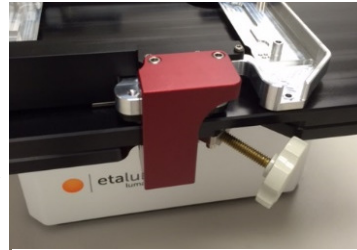
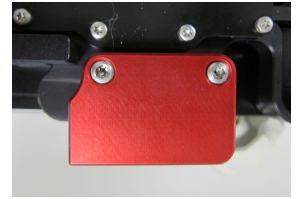
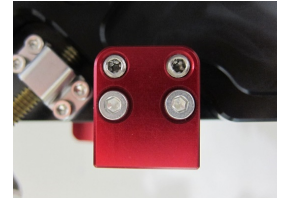

Fig 1. Shipping lock installed on LS720
Fig 2. Installed shipping lock from top showing 2 set screws
Fig 3. Installed shipping lock from bottom showing 2 set screws (smaller heads) and 2 1-inch screws (larger heads)
1. Fig 1 shows how the LS720 arrives with the red shipping lock installed. Using the supplied 3 mm hex wrench, loosen the 2 set screws on the top of the installed shipping lock (Fig 2). Loosen the 2 set screws (smaller and more internal) on the bottom of the lock (Fig 3).
2. Unscrew the 2 larger screws on the bottom of the shipping lock (Fig 3) completely. Slide the shipping lock toward you to remove.
3. Slide shipping lock into position at front of deck just left of the Deck Knob (Fig 1) so the 2 holes in the shipping lock line up with 2 holes on the front underside of the deck. Screw in the two 1-inch screws (Fig 3) until tight using the supplied 3 mm hex wrench (official torque is 16 inch-pounds).
4. Tighten the 4 set screws in the shipping lock with the 3 mm hex wrench until just tight with labware carrier (top 2 screws, Fig 2) and deck surface (bottom 2 screws, Fig 3). Do NOT over tighten. Set screw heads will be approximately even with shipping lock surface.